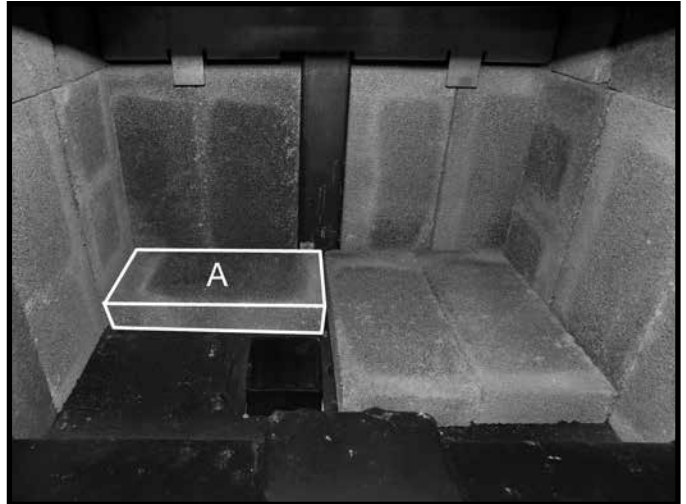

Figure 36: Third floor brick in place.
- Place a third "A" firebrick against the rear wall as shown in (Figure 36).on page 29